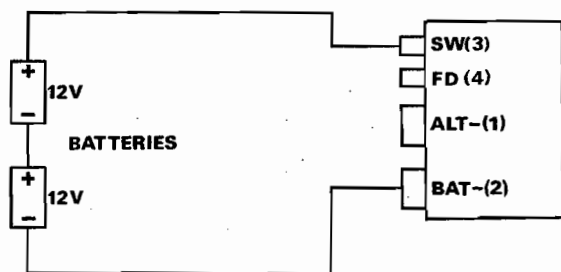

FIG. 5. RELAY COIL TEST
3. Connect a 24V DC supply between terminals 2 and 3, Fig. 5, and confirm contacts close. Non-closure indicates an open circuit condition of either diode D1 or relay coil.